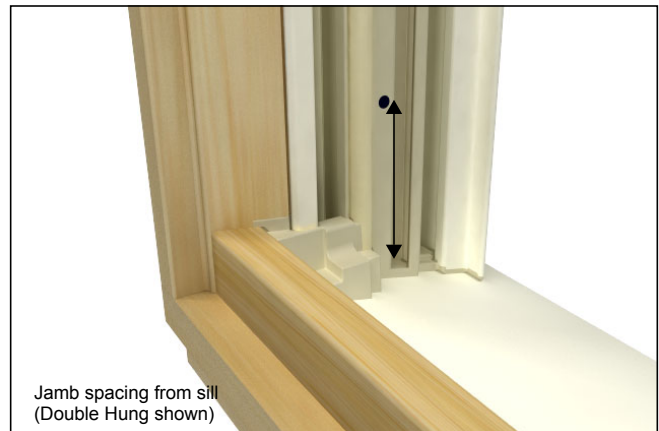
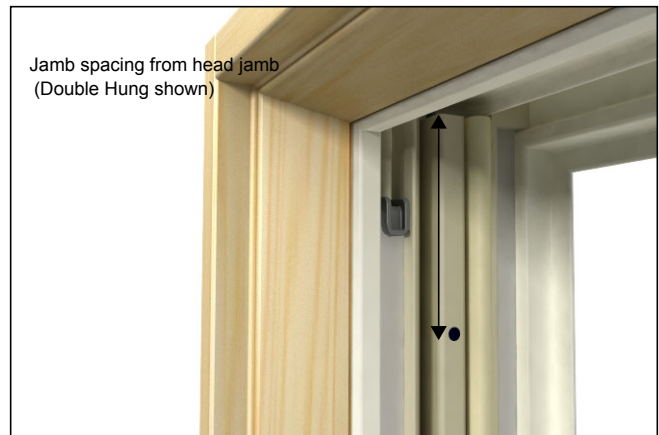

Figure 4
Figure 5
1. Mark hole location centered on jamb carrier using spacing chart. Carefully drill marked holes through jamb carrier only using 5/16"(8) drill bit. Center 3/16"(5) drill bit in 5/16"(8) hole and carefully drill through jamb frame. See figure 4 and figure 5.